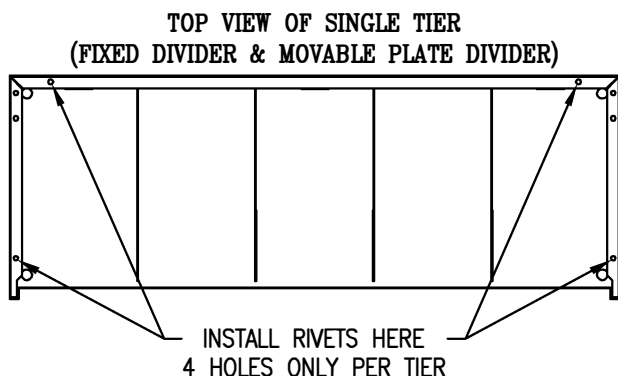

FIGURE 1
2.) Place the first tier on top of base. Slide the tabs on the tier under the flange on the base (Detail 5). Align the holes and install (4) drive rivets (Detail 1), 1 in each outside corner on back, and 1 in side hole closest to the front of the tier (Figure 1). Strike each rivet with hammer until the small steel center of the rivet is flush with the crown portion of the rivet.
3.) Place the second tier on top of the first, sliding the tabs of the top tier under the flange of the lower tier (Detail 5). Align the holes and install (4) drive rivets (Detail 2), 1 in each outside corner on back and 1 in side hole closest to the front of the tier (Figure 1). For Standard Fixed Divider Tiers, see View A. For Movable Plate Divider Tiers, see View B.
5.) Install top cover by hooking lip on rear of top (Detail 3) under the flange of the top tier. Align the holes on the sides and install (4) 1/4-20 nuts and 1/2" long pan head screws (Detail 4) to secure top cover in place.